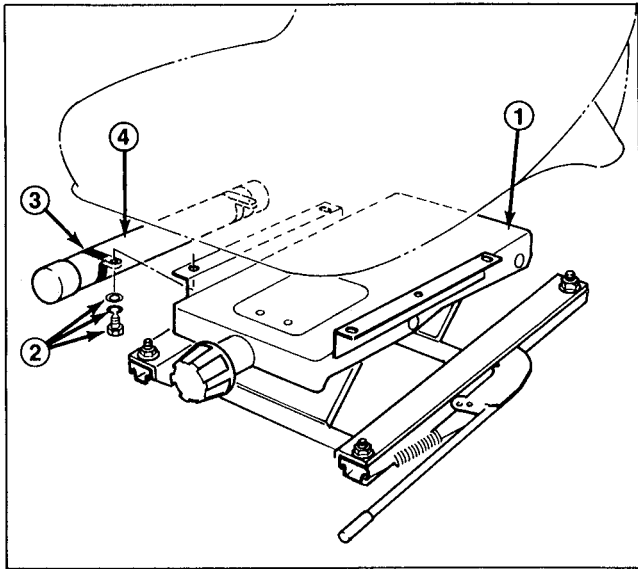

Figure 4
1. Mount seat mounting plate over four threaded studs at the bottom of seat suspension assembly and secure in place with lockwashers and nuts (Fig. 4).
install and tighten nuts to secure all four locations (Fig. 4). Install manual tube into R-clamps.